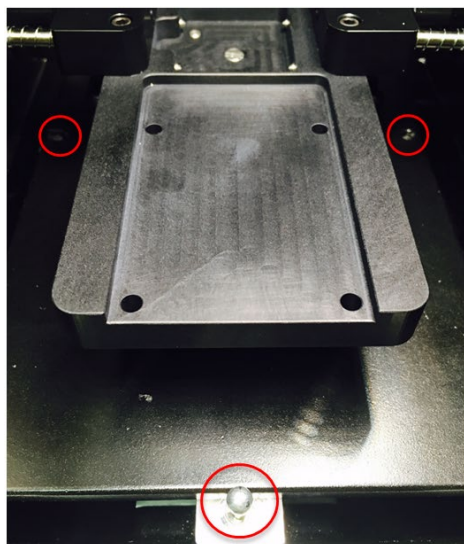

FIGURE 3: Registration pins and front slip-pin
- d. Insert the baseplate assembly into the sample compartment of the Evolution 220 using the registration pins at the back, and then push down to secure the plate against the front slip-pin. See Figure 3.